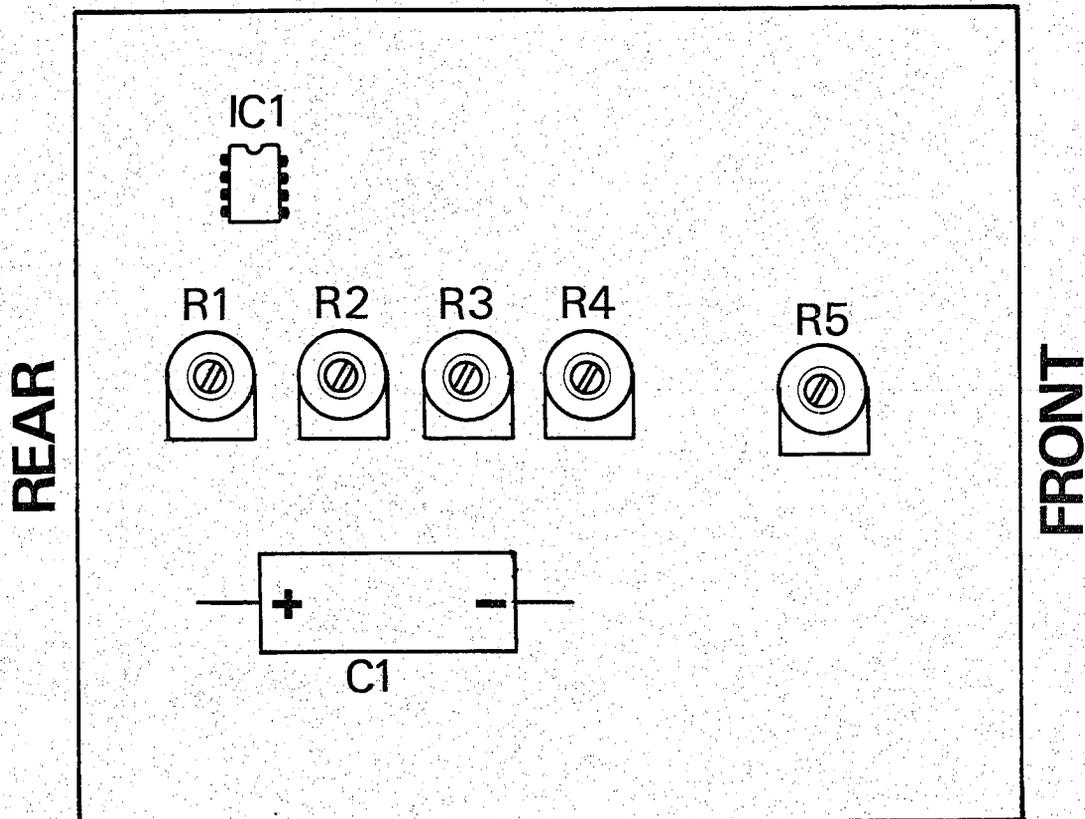

Fig. 2. Model 1640 printed circuit board, component view (calibrating trimpot locations shown).
To gain access to the calibration adjustments, remove the 6 screws at the sides of the top cover, then lift the top cover. Refer to Fig. 2 for locations of the calibration adjustments. A 0.100 inch hex type alignment plastic tool is required to turn the internal pot adjustments. Set Model 1640 POWER switch to the OFF/RESET position.
1. Set R1, R5, and the front panel VOLTS control to full CCW position. (See Fig. 2.)
**VOLTMETER CALIBRATION (See Fig. 2)****NOTE**
#### AMMETER CALIBRATION (See Fig. 2)
#### SHUTDOWN ADJUSTMENT (See Fig. 2)